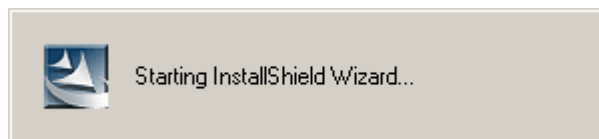

Figure 7-15: The InstallShield Wizard Starts
- Step 4:** The **InstallShield Wizard** starts (**Figure 7-15**).